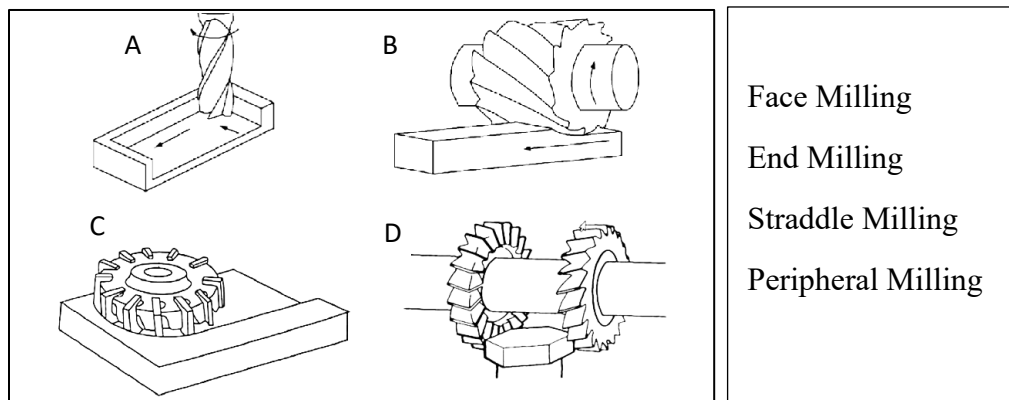

Figure 2(b) / Rajah 2(b)
- (b) (i) Match the milling machine process based on **Figure 2(b)**.